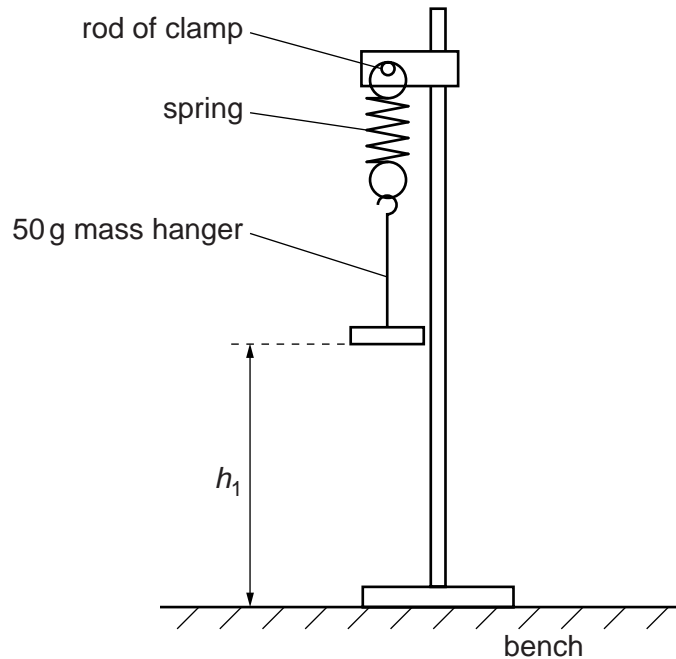

Fig. 1.1
- (a) (i) Suspend the single spring and the mass hanger from the rod of one of the clamps. Measure and record the height h_1 of the mass hanger above the bench, as shown in Fig. 1.1.